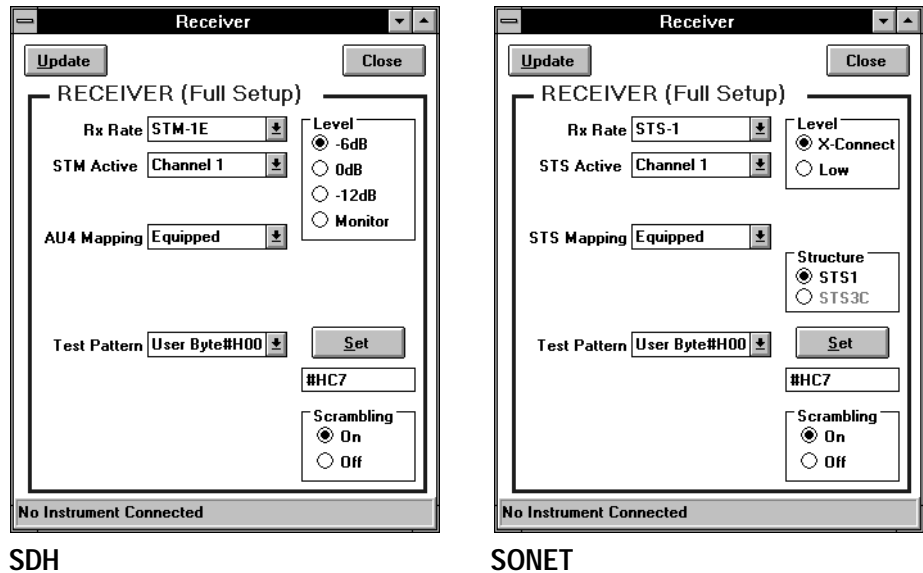

Figure 3–18: Setting a repeating byte test pattern
- b. When the text box appears as shown in Figure 3–18, remove the two digits 00 in the text box.